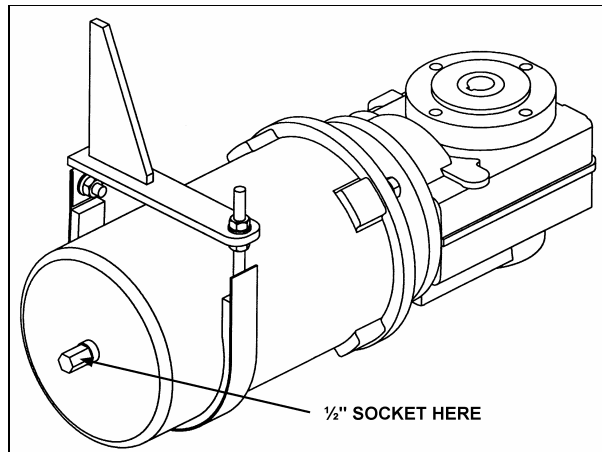

FIGURE 8
9. If the slide-out is not lined up with the vehicle exterior, move the slide-out using a ½" socket on the back of the slide-out motor (refer to figure 8).